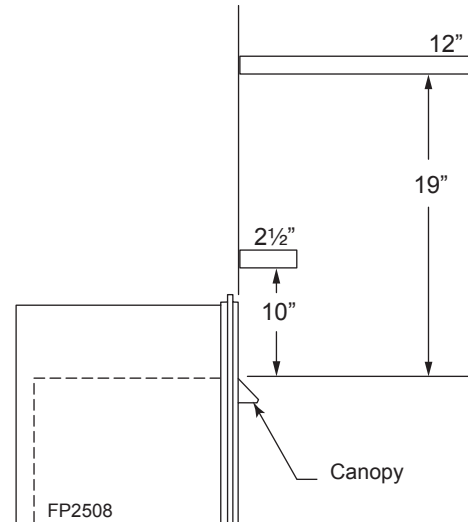
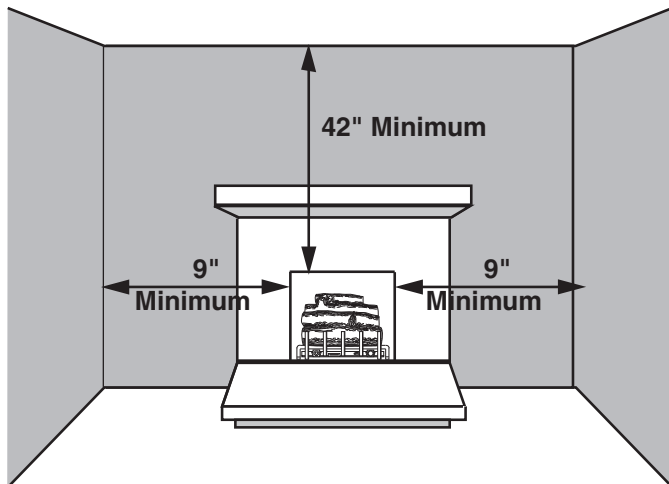

Figure 7. Mantel Clearances
Figure 6. Sidewall and Ceiling Clearances
Ensure that minimum clearances shown in Figure 6 and Figure 7 are maintained. Left and right clearances are determined when facing the front of the firebox.
**Sidewall Clearances** — The clearance from the inside of the appliance to any combustible adjacent wall should not be less than 9" for the VFC24 and VFC32. Figure 6
**Ceiling Clearance** — The ceiling must be at least 42" from the top of the firebox opening. Figure 6
**Mantel clearances** — The canopy supplied with the unit must be installed. If a combustible mantel is installed. It must meet the clearance requirements detailed in Figure 7
**⚠ WARNING:** The dimensions shown in Figures 6, 7 and 8 are minimum clearances to maintain in installing this heater. Left and right clearances are determined when facing the front of the heater. Follow these instructions carefully to ensure safe installation. Failure to follow instructions exactly can create a fire hazard.